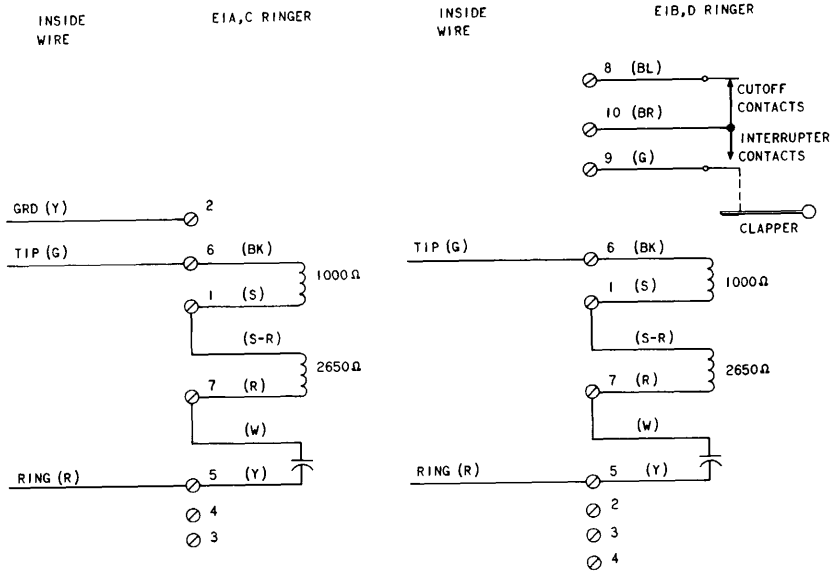

Fig. 5—E1-Type Ringer, Connections
**4.01** Some typical connections for the E1-type ringer are shown in Fig. 5.